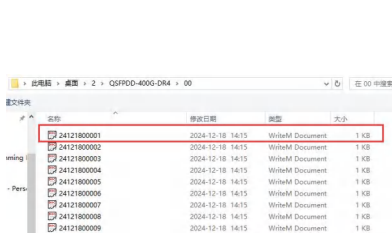

Figure 64
3.1.2 Click “ Export BinFile” to import the Page00 bin (Figure 64)
3.2.1 Select the configuration file “SFP/XFP/QSFP 00001011” corresponding to the QSFP-DD 400G DR4 password of “00001011” (Figure 64)